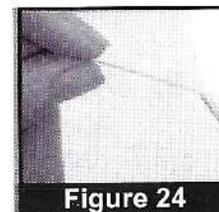

Figure 24
6. Snip the threads with the thread cutter. (Figure 24)